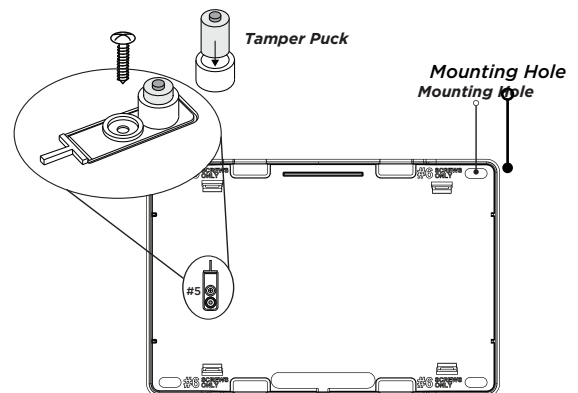

Figure 1: Inside of the 1100X Housing
2. Use the included #6 screws to secure the 1100X to the wall. See Figure 1 for mounting hole instructions.
3. Use one of the provided screws to secure the wall tamper. See Figure 1 for tamper location.